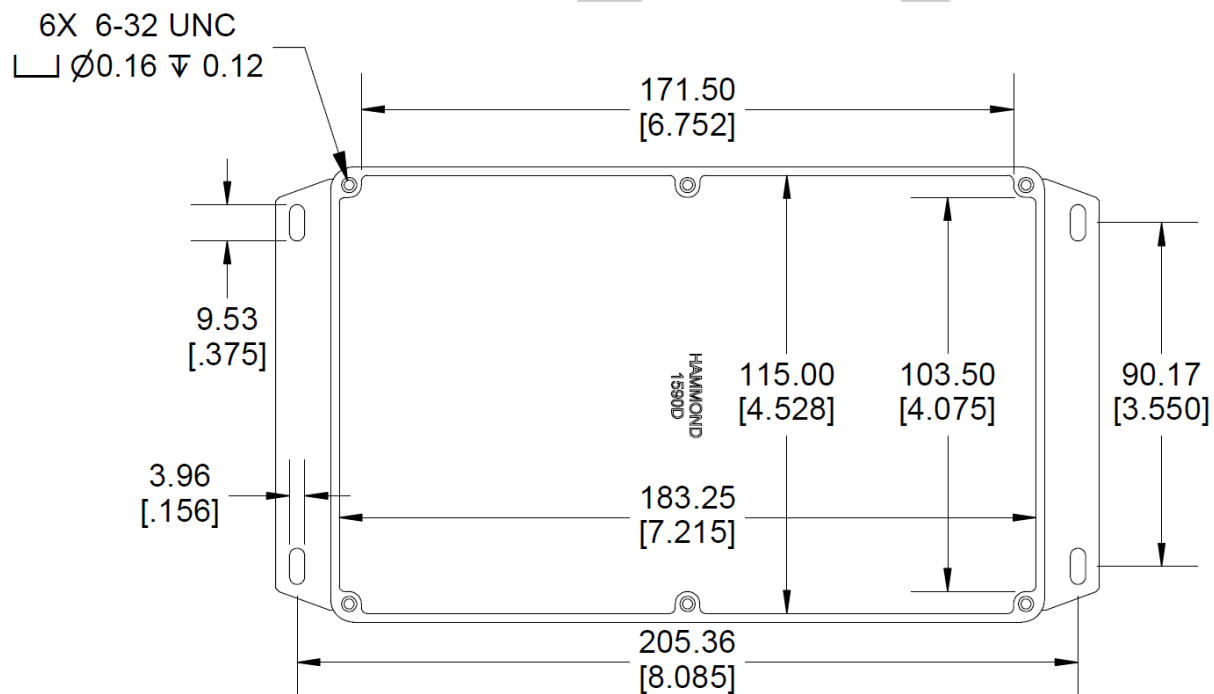

Figure 7 – Mounting Hole Locations (not drawn to scale)
2. Use the drawing shown in Figure 7 to locate the four mounting holes and drill or punch the mounting holes. For further details see <https://www.hammfg.com/part/1590DF>.